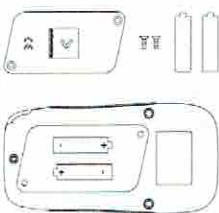

Figure 2
3. Remove the flat batteries from their holder (Figure 2);